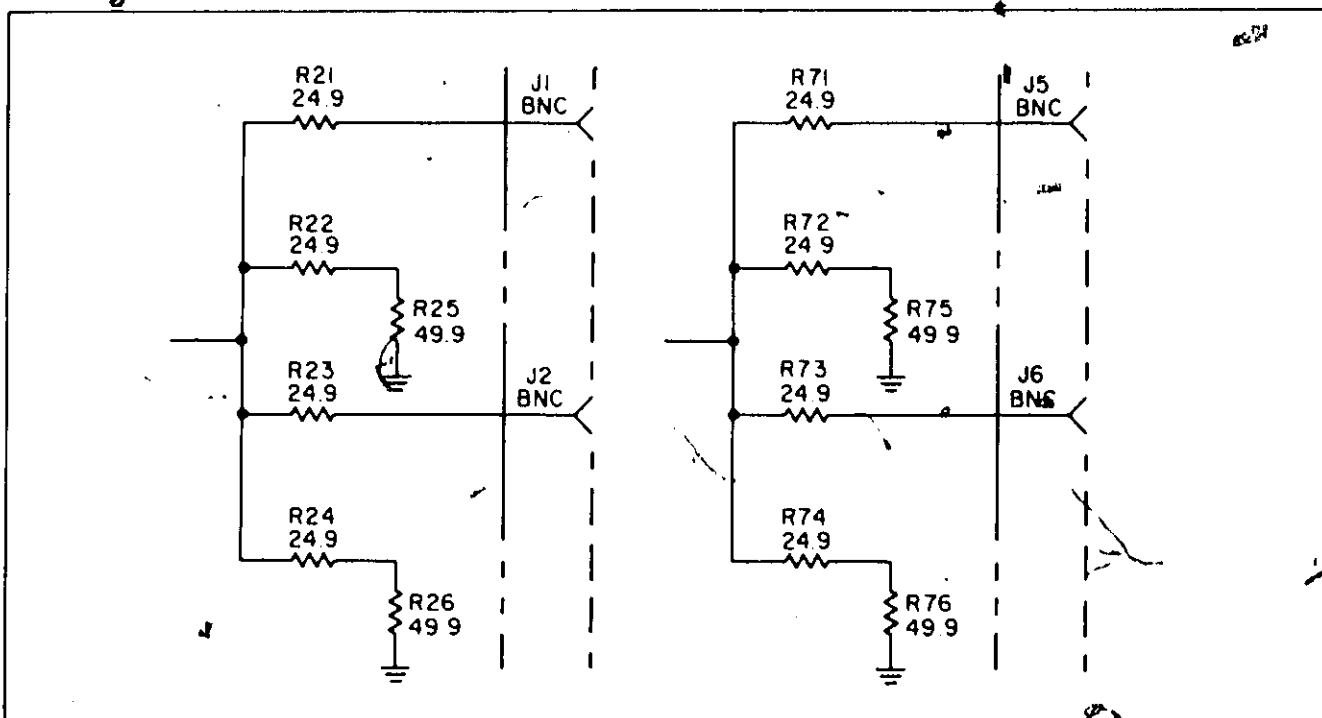

Figure 7-1. Option 02, A5-A14 Circuits
7-2. This section outlines the changes made to standard 5110B instruments for driving more than one HP Frequency Synthesizer. BNC connectors and output load resistors are installed in Filter Modules A5 through A15 for driving two (Option 02), three (Option 03), or four (Option 04) Frequency Synthesizers. Any unused outputs should be terminated in 50 ohms (HP 10510A 50-ohm BNC load available) to maintain specified spurious performance. Twenty two (22) loads are required for each set of outputs not used. For example, if the 5110B has Option 04 installed and only two Frequency Synthesizers are being driven, 44 outputs should be terminated. The diagrams in Figures 7-1 through 7-6 and parts lists in Tables 7-1 through 7-6 outline the changes required for Options 02 through 04.